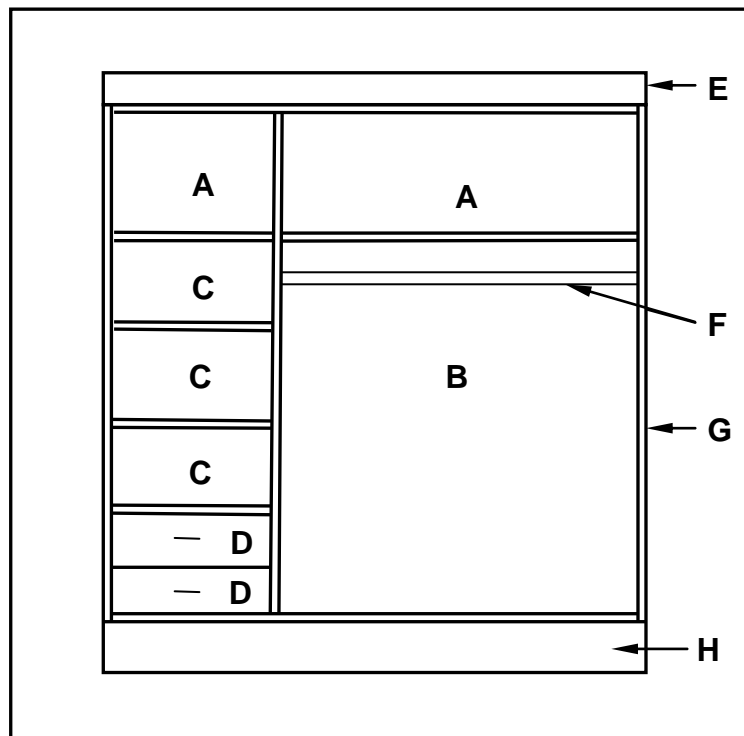

FIGURE 3.3
- 3.3 FIGURE 3.3 below shows the inside of a built-in cupboard without doors. Study the drawing and answer the questions that follow.